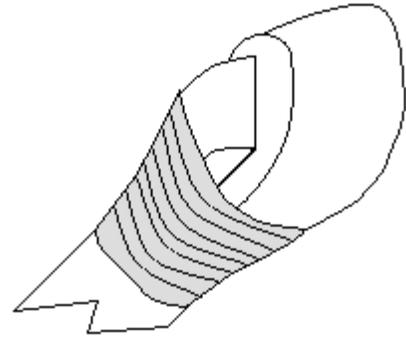

Figure 5
5. Securely and tightly wrap the open cell foam in strapping tape, starting on the rattan below the foam, and continuing to just past the end of the rattan. Continue taping about half the remainder of the distance to the end of the foam, but loosen the tightness of the strapping tape, or the tip will end up being too small in diameter. Put another layer of strapping tape on, going in the opposite direction. Your sword should now look like Figure 5.